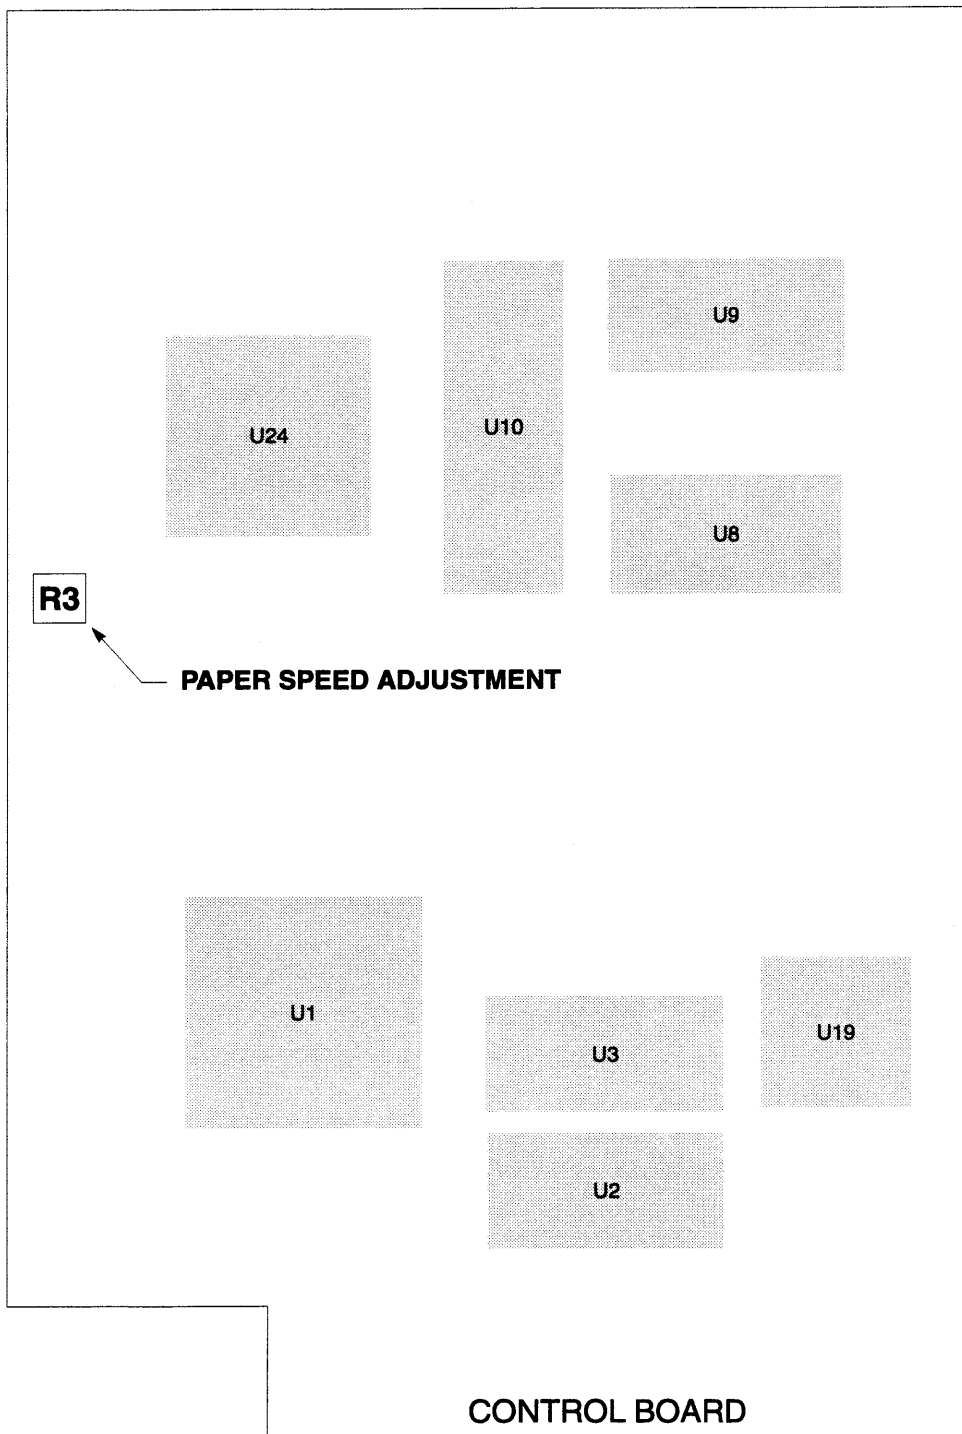

Figure 3
3. The multimeter should read between 2.46 and 2.54 V DC. If not, adjust R224 on the CPU and R-Wave board until the reading is correct. Refer to Fig. 3, pg. 13 for the location of R224.
5. Press  to quit printing. Check the printout to see if the pulse is 10 mm (± 0.5 mm). If it is not, adjust R127 on the CPU and R-Wave board until the pulse is correct. Refer to Fig. 3, pg. 13 for the location of R127.